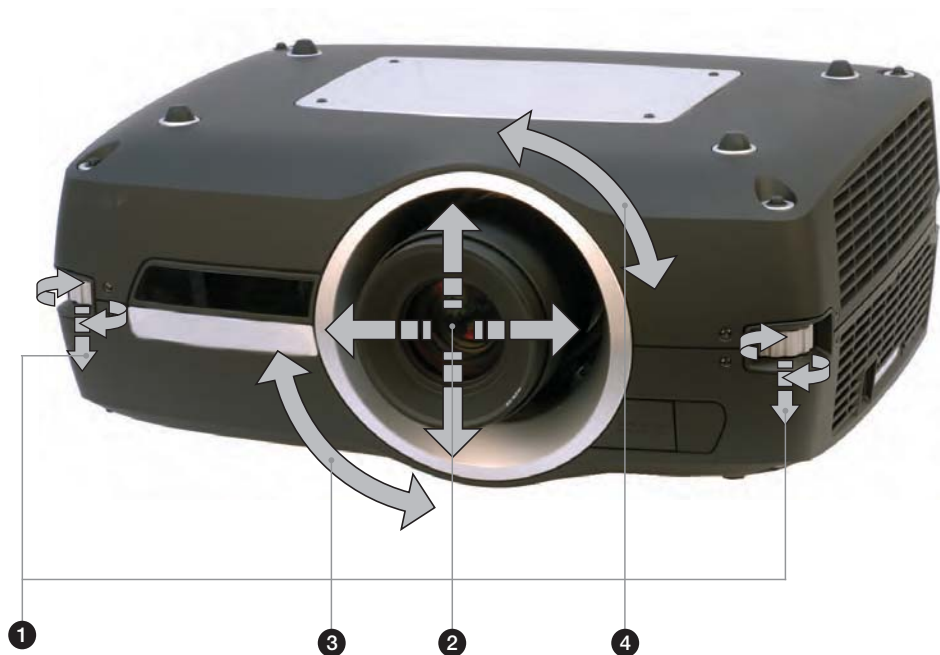

Figure 5-1. Image size and position adjustment
1. Adjustable feet (E in Figure 5-1).
2. Lens shift mechanism controlled from the keypad, the remote control, RS-232 or LAN (A in Figure 5-1).
3. Zoom (for lenses with zoom) in the lens controlled from the keypad, the remote control, RS-232 or LAN (B in Figure 5-1).
After the correct image size and position is found, please adjust the image focus using the keypad, the remote control, RS-232 or LAN. (4 in Figure 5-1).